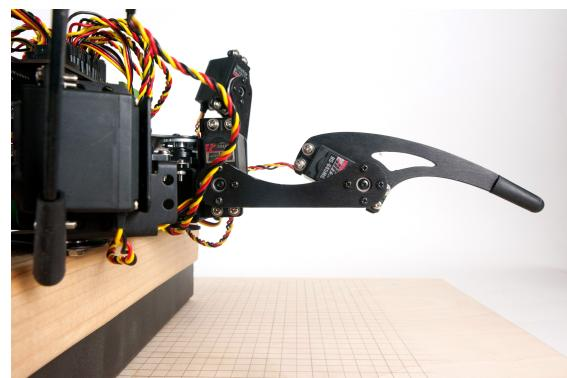

Figure 5-11 Trimmed femur
- You will be setting the offset value for all six femurs: l1f, r1f, l2f, r2f, l3f, and r3f. Figure 5-11 shows a trimmed femur.